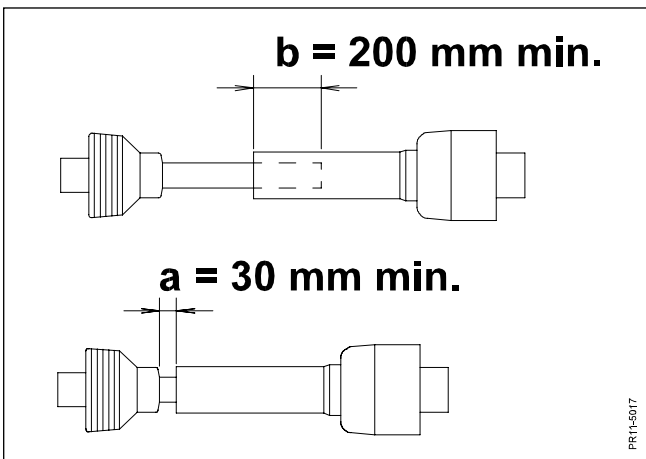

Fig. 2-9
- Fig. 2-9** Check the maximum turning angle "**C**" with the machine in raised position. Because of the position of the PTO shaft the turning angle "**C**" is limited by the fact that the PTO shaft is not pushed any further together than the prescribed 30 mm distance to the block.